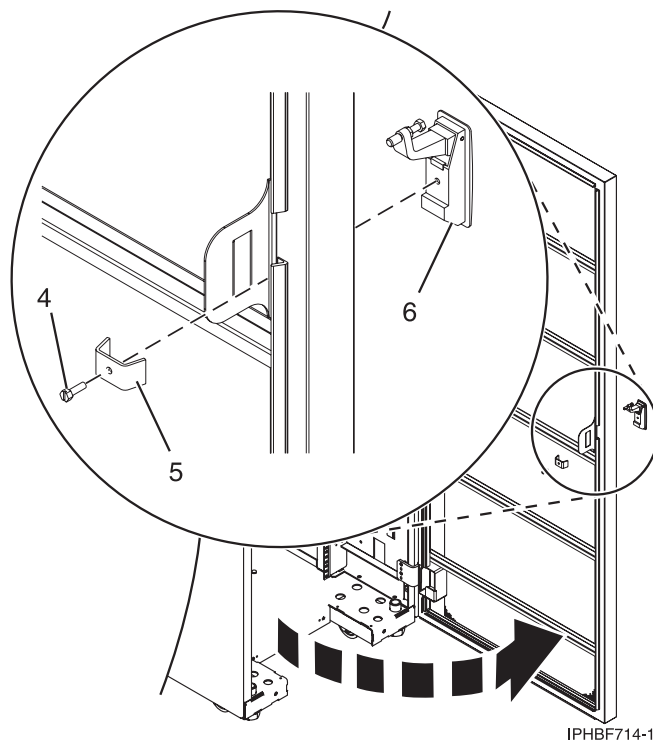

Figure 28. Removing the existing door latch.
- b. On the inside of the door, remove the screw 4 in Figure 28, that secures the lock to the rack door.
- a. Insert the keyed rack lock into the latch slot on the front of the door 6 in Figure 28.